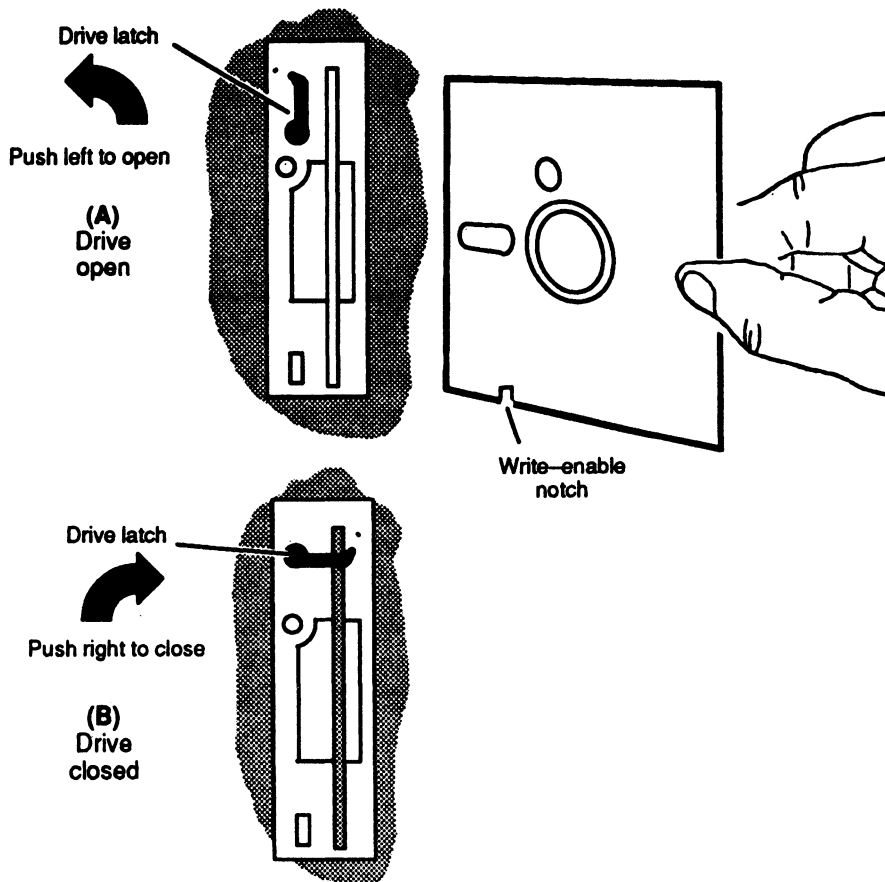
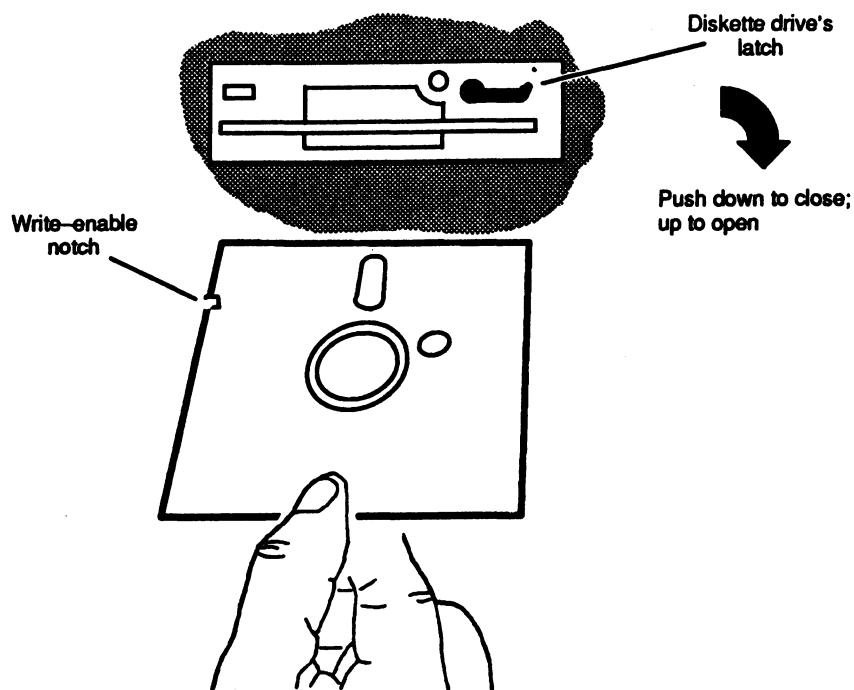

Figure 6-1 Inserting a Diskette in a Vertically-Mounted Drive
Figure 6-2 Inserting a Diskette in a Horizontally-Mounted Drive
Figure 6-1 illustrates inserting a write-enabled diskette (A) and closing the latch (B) for a vertically-mounted drive; Figure 6-2 illustrates inserting a diskette and closing the latch in horizontally-mounted drive (such as one in a Peripheral Housing Unit chassis).